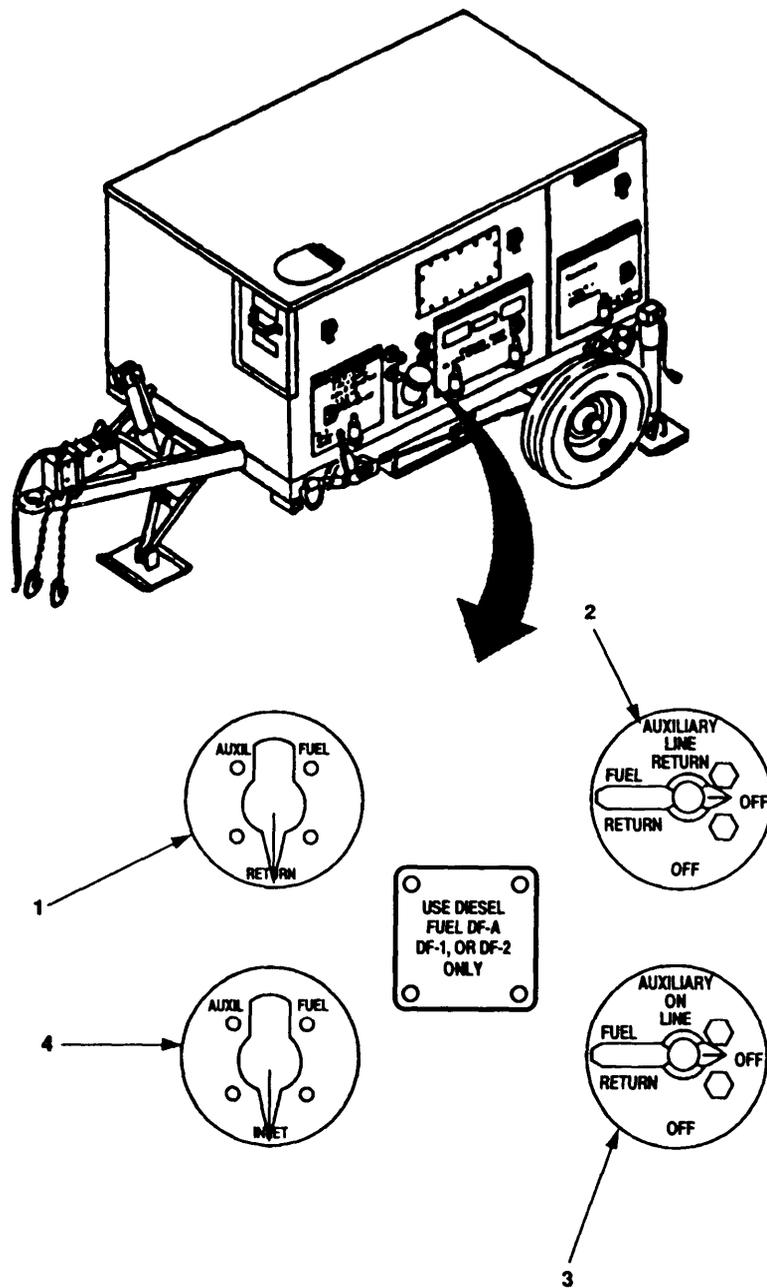

Figure 2-22. Model 609-C Connections for External Fuel Supply.
- e. To stop engine, turn ELECTRIC SPEED CONTROL (3) counterclockwise to idle position. Let engine idle for 2 or 3 minutes. Push ENGINE SWITCH (2) to OFF position. Engine will shut down.
2.5.2 Operation of Model 609-C. The pumping assembly is capable of two modes of operation, manual and automatic. Use manual mode for startup. Automatic mode may be used for sustained operation after startup. Model 609-C can be operated using fuel from its self-contained fuel tank, or from an external fuel source. Refer to Figure 2-22 and perform the following: